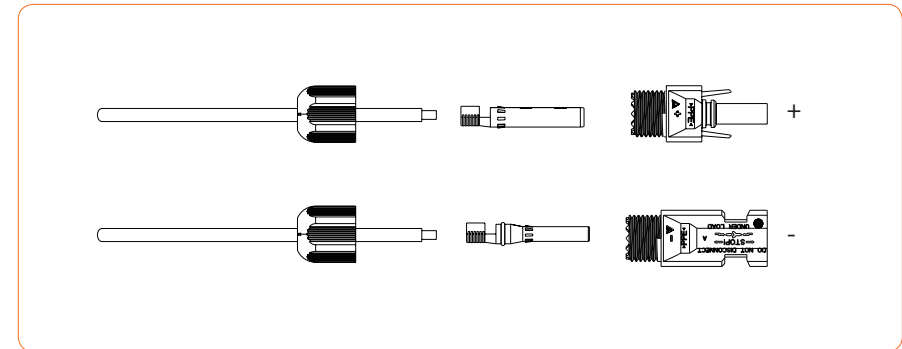

Figure 4-18
③ Disassemble the connector in the accessory bag, as shown in Figure 4-18: